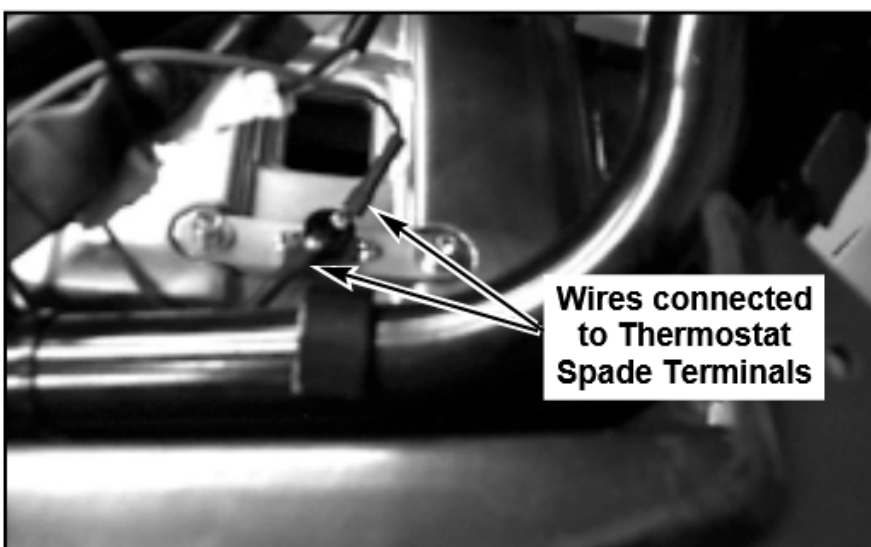

Figure 11. Connect Harnesses to Thermostat
17. See Figure 11. Connect spade terminal wire from each harness to the spade terminals located on the thermostat switch. Order of connection makes no difference.